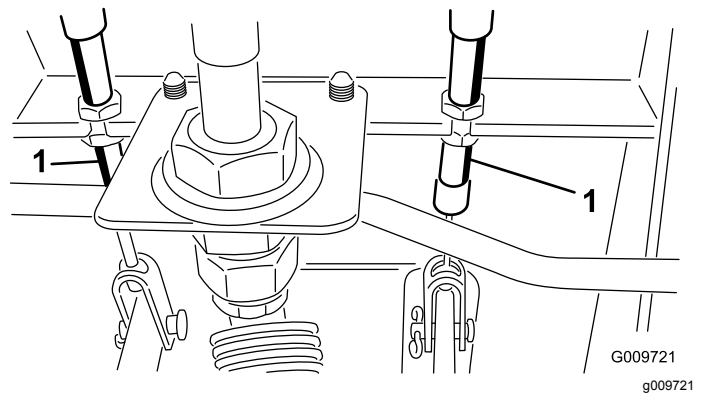

Figure 104
- A. Loosen the front nut on the threaded end of the brake cable (Figure 104).